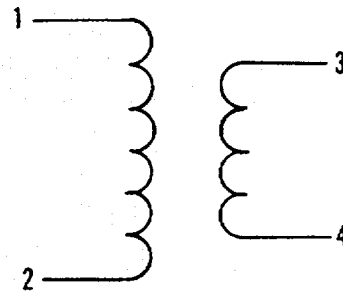

Figure 3-28. Transformer Schematic.
- (1) Tag and remove transformer leads.
- (2) (Refer to Figure 3-28). Using a multimeter set on lowest OHMS scale probe transformer terminals 1 & 2, and 3 & 4. Multimeter should show a very low resistance.
- (3) Probe transformer terminals 1 & 3. Multimeter should read infinite resistance.
- (4) If transformer fails steps (2) or (3), transformer is defective. Replace transformer.